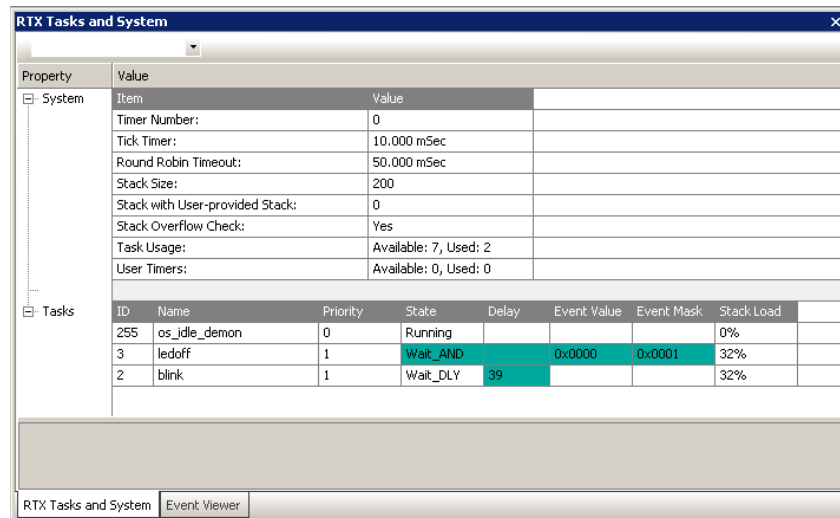

Figure 27: RTX Viewer: RTX Tasks and System window.
1. Open Debug/OS Support and select RTX Tasks and System and the window in Figure 27 opens up. RTOS visibility is updated in real-time using the same CoreSight DAP technology as used to update and modify the Watch and Memory windows.